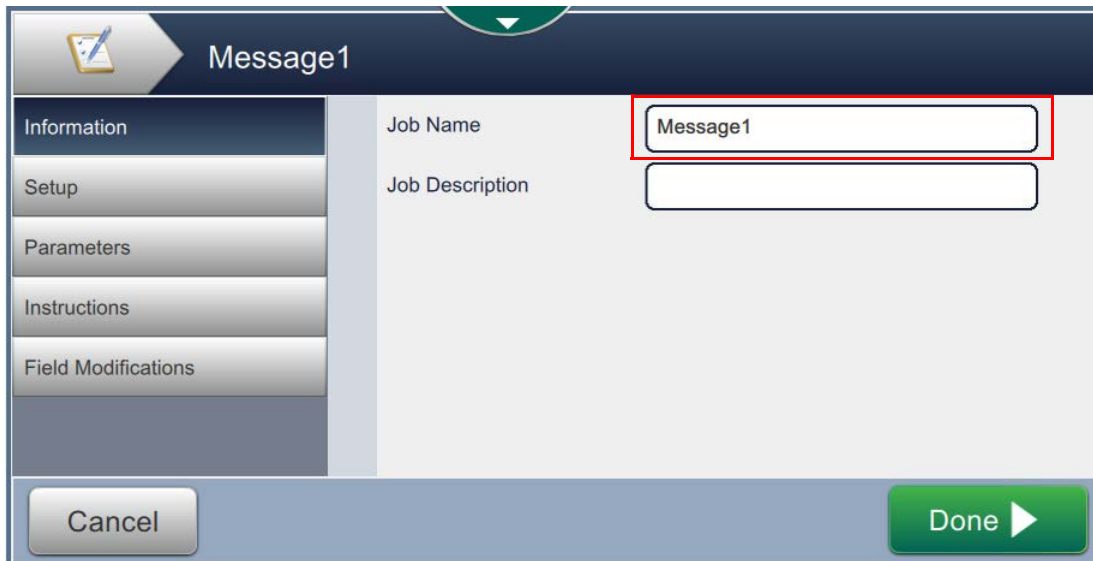

Figure 3-4: Jobs Settings Screen
3. Touch the *Job Name* field to enter the job name for the new job as shown in Figure 3-4. Enter the required Job Name using utility keypad and touch the *Accept* button. For example, Message 1. Touch the *Done* button on the Jobs Settings screen to save the changes.